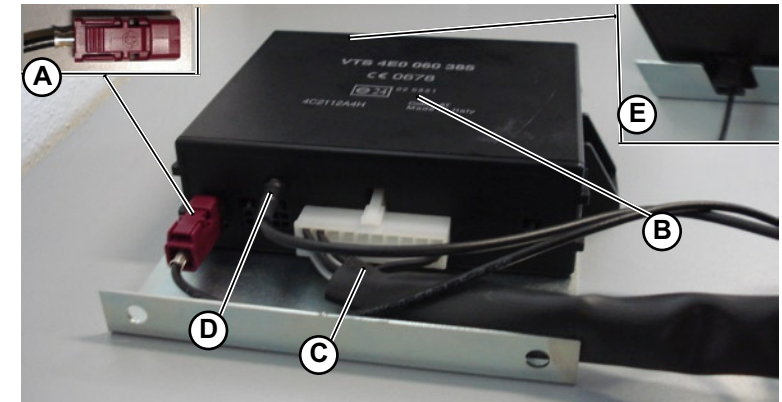

Fig.19
27. As show in the picture beside (**A-Fig.19**), assemble the end of the GSM antenna's wire (**8-Fig.2**) in the violet connector supplied with the kit.
28. Connect to the VTS ECU (**B-Fig.19**) all the necessary harnesses. In the front side, connect the connector of the VTS harness (**C-Fig.19**), the connector of the GPS antenna (**D-Fig.19**) and the one of the GSM antenna (**A-Fig.19**). In the rear part of the ECU, insert the connector of the Driver Cards antenna (**E-Fig.19**).